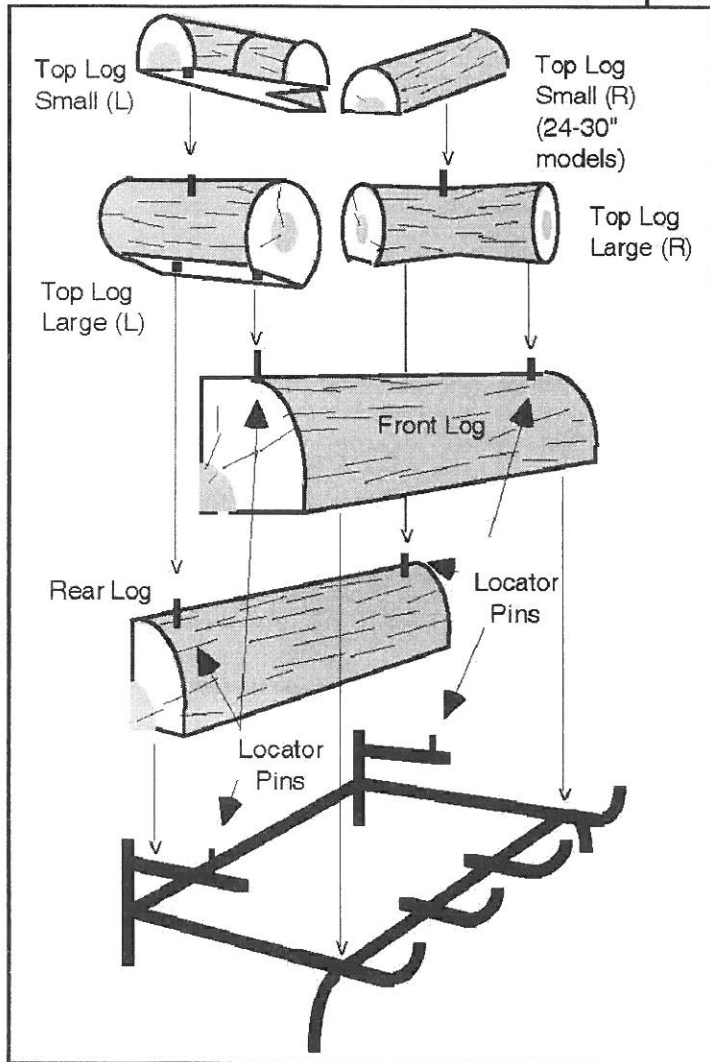

Figure 5
2. Place largest log (FRONT LOG) in the front of the grate and the second largest log (REAR LOG) on the rear of the grate behind the LOCATOR PINS. (Figures 5 and 6).
3. Place both Right and Left LARGE TOP LOGs across the FRONT and REAR logs with the LOCATOR PINS inserted into the drilled holes located on the bottom of both LARGE TOP LOGs. (Figures 5 and 6).
4. Place (R) and (L) SMALL TOP LOGs (24 and 30" models) across the FRONT LOG and LARGE TOP LOGs.